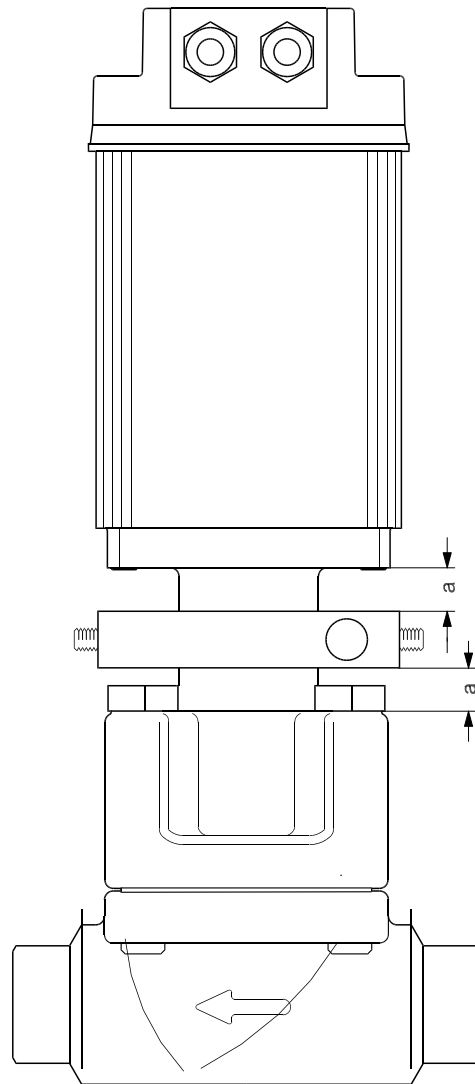

Fig. 3
- Install the heat cartridge holder on the ICAD actuator. Position the heat cartridge holder in a center position as shown in fig. 3